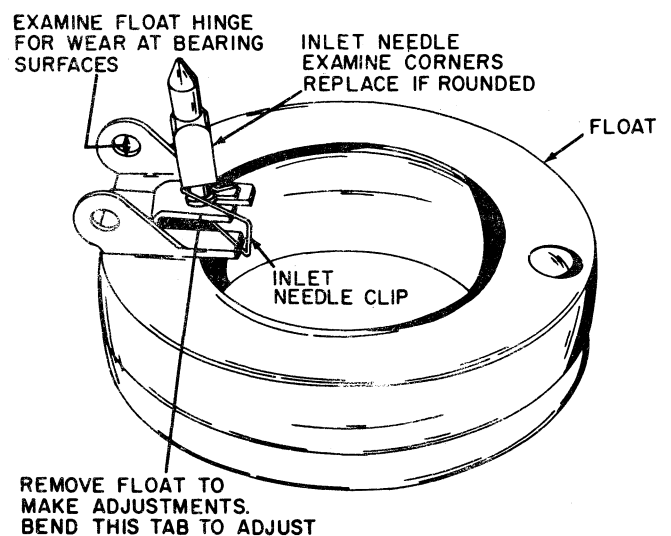

Figure 4
4. If the inlet needle was removed from the float, install it and the clip. The inlet needle clip must be positioned as shown in Figures 4 and 5.
7. Remove the drill and allow the valve to seat, then check to see that the drill can be inserted. If not, or if the float does not touch the drill, an adjustment must be made. This is done by removing the float and bending the tab to which the inlet needle is attached. Refer to Figure 4.